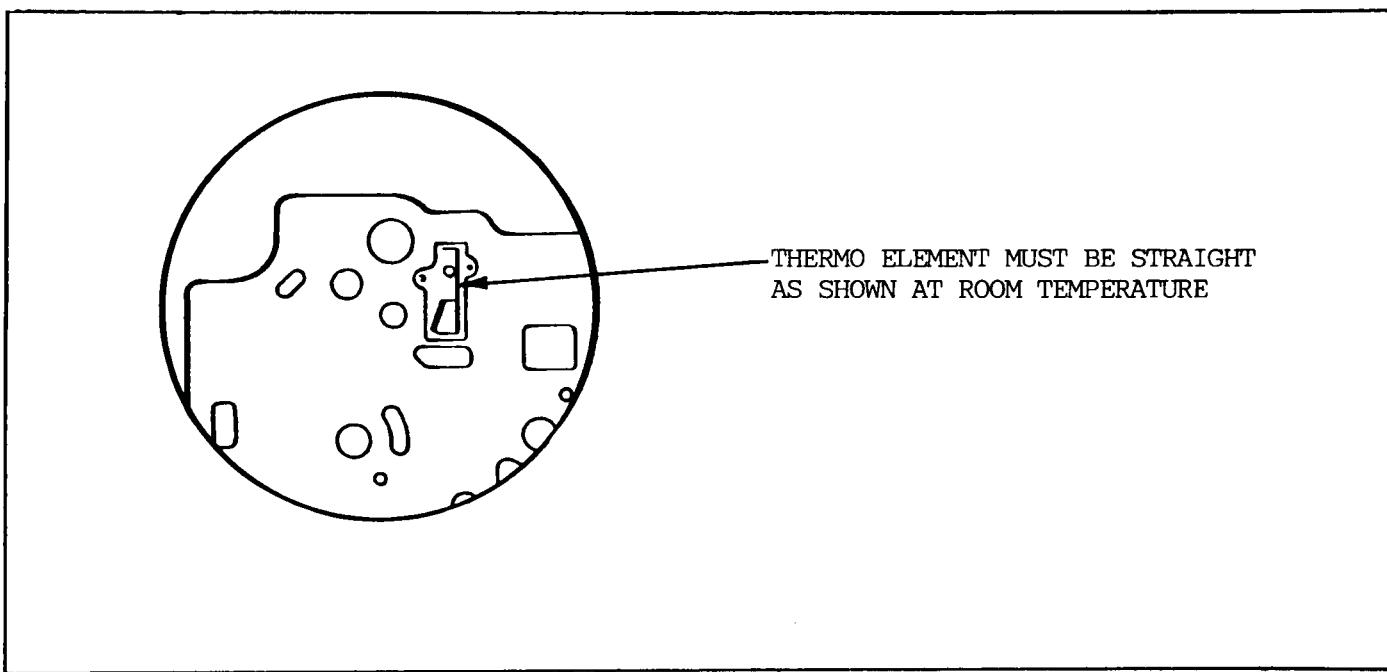

Figure 93
20. Install spacer plate and verify that thermo element is in proper position. See Figure 93 for proper position of thermo element.